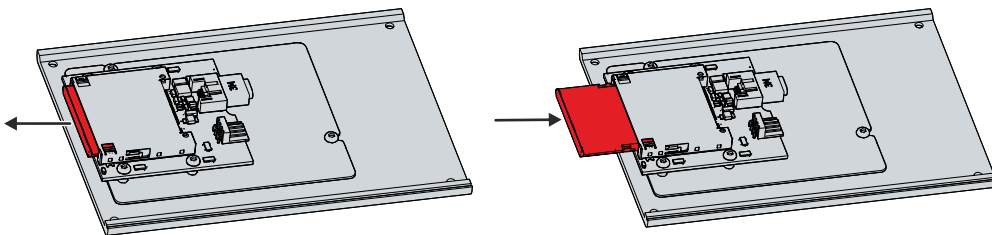

Fig. 18: Replacing the CFast
1. Pull the CFast out of the holder (see fig. 18).